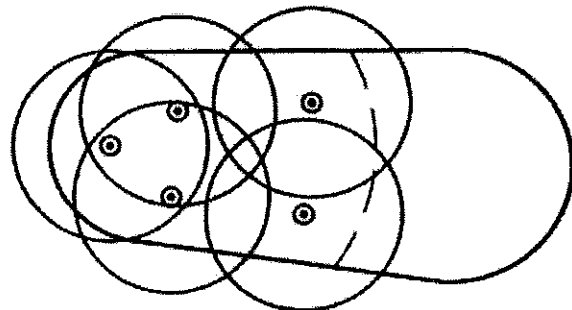

Figure 2-5: Pool #2 Right
Pool #2, by adding one (1) extra head, the deep end can be properly covered by relocating the heads as shown in Figure 2-5.